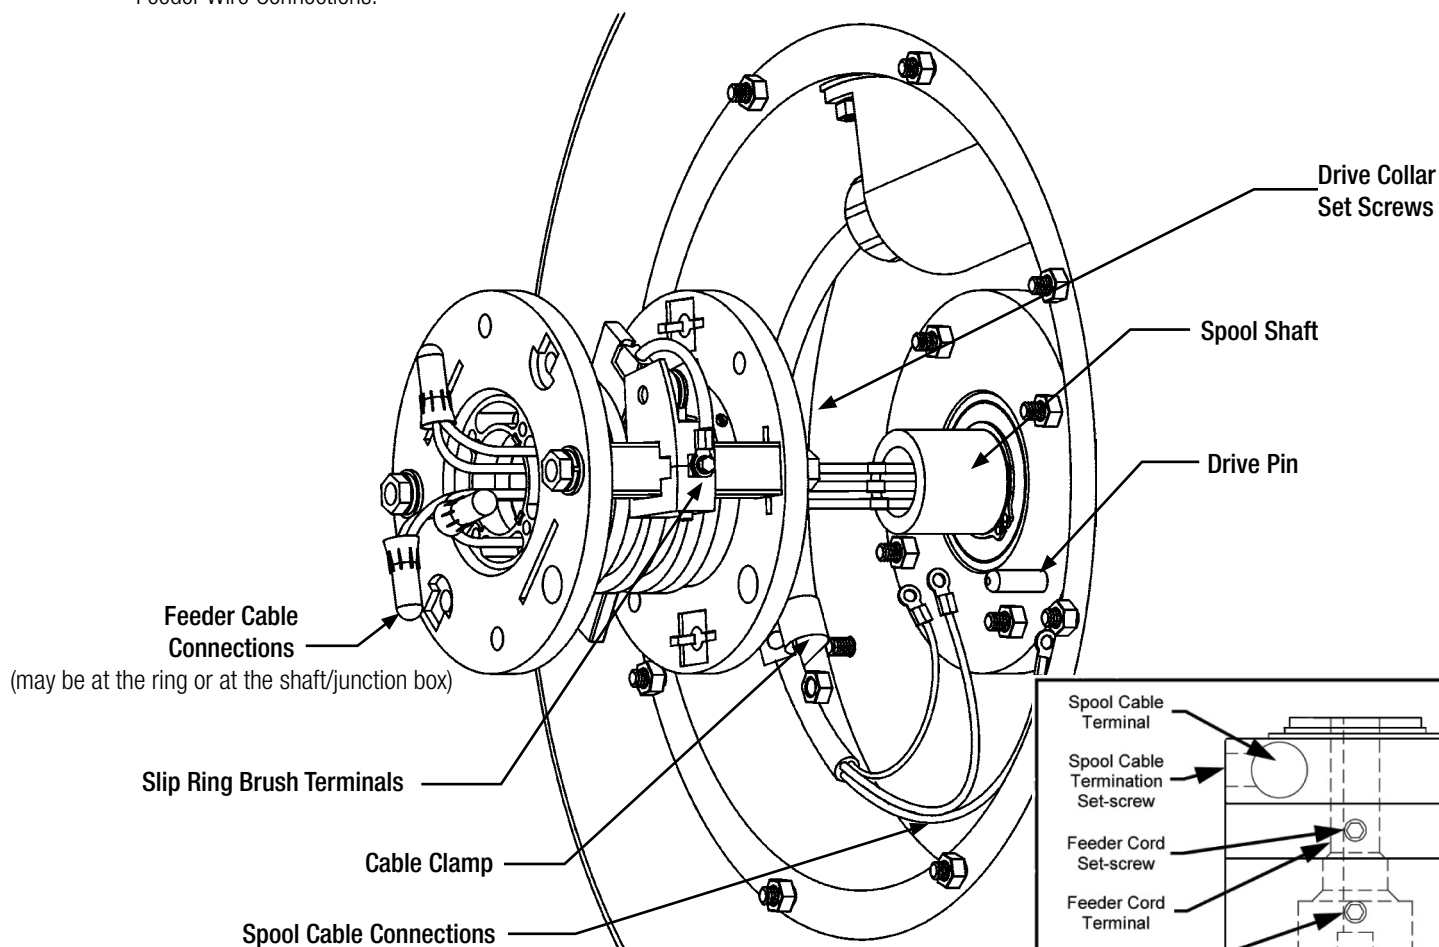

Figure 16-2
4. Disconnect the Slip Ring Core Leads from the Junction Box terminals or, if there is no Junction Box, cut the wire as close as possible to the crimp connector. See **Figure 16-2**.